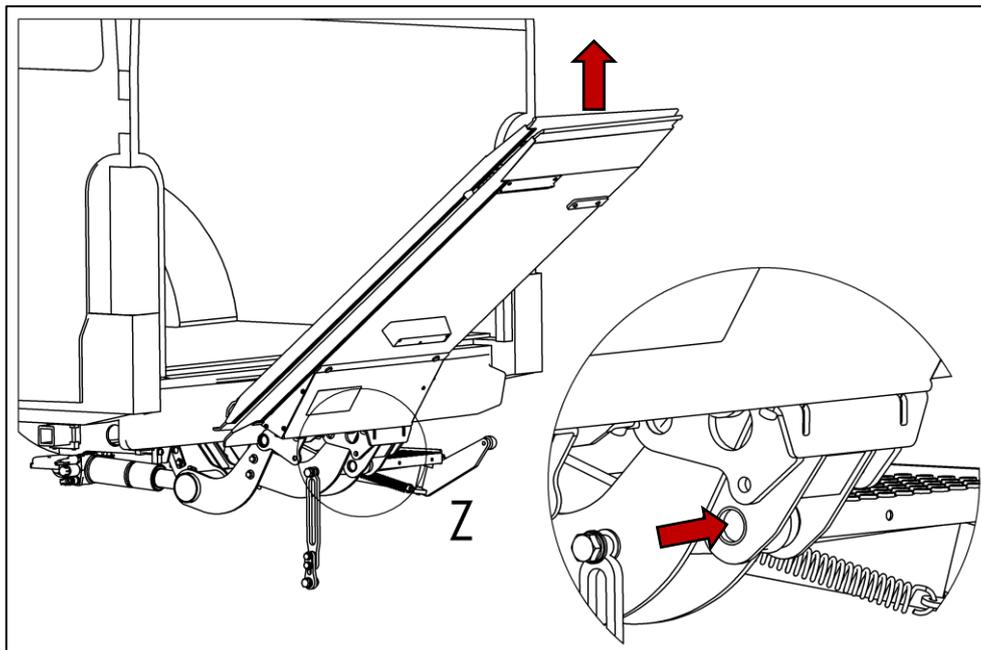

Fig. 61
- Lift the tip of the platform until the closing-rod bearing point (attachment point for the closing rod) is aligned with the swing-arm bearing point (bottom attachment point on the platform) (see Fig. 61).